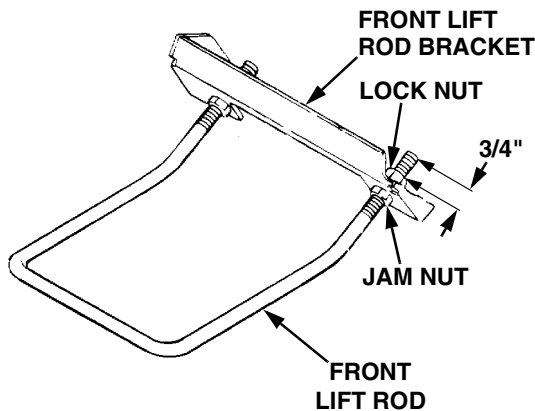

Figure 35
- Initially adjust the front lift rod to allow approximately 3/4 inch of thread to protrude beyond both lock nuts of the front lift rod/bracket assembly (See Figure 35).
- Referring to Figure 35, loosen the rear jam nuts on the front lift rod. From the front of the tractor, **evenly** turn the front lock nuts clockwise to raise the front of the mower deck, or counterclockwise to lower the front of the mower deck.